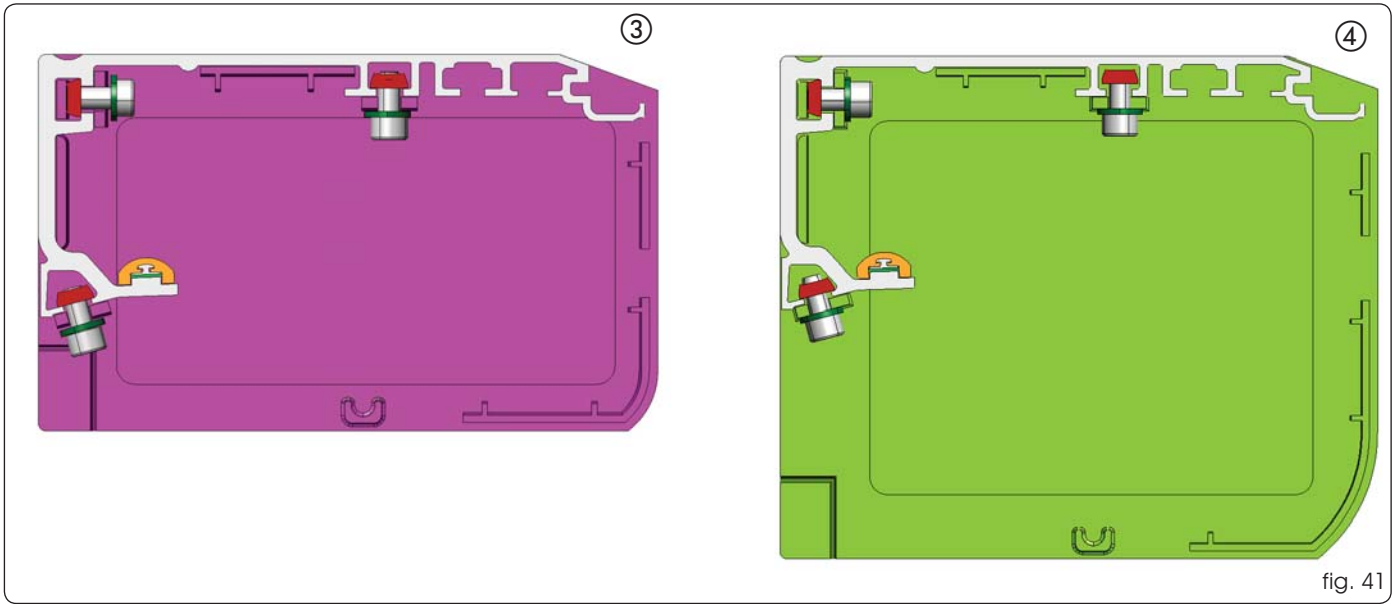

fig. 41
Secure the side panels H100 and H140 using the 3 supplied screws as shown in fig.41 ref.3 and ref.4.